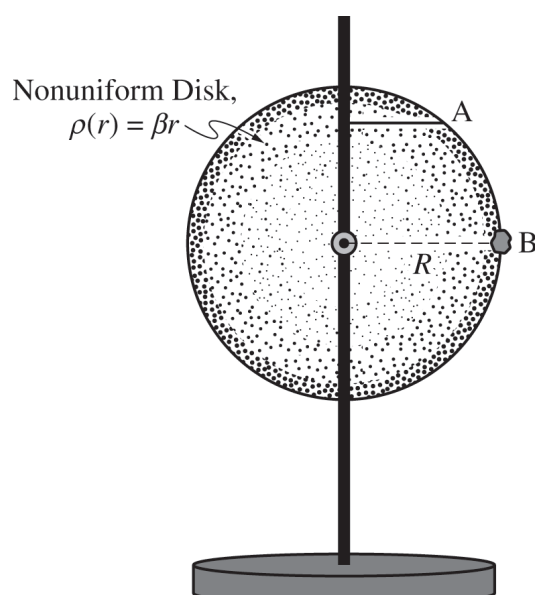

Figure 3
- (d) A nonuniform disk is now attached to the axle. The lump of clay is attached to the disk at Point B, as shown in Figure 3. The clay has mass $m_c = 0.60 \text{ kg}$ and the disk has a radius $R = 0.30 \text{ m}$. The mass density of the disk varies radially and can be modeled by $\rho(r) = \beta r$, where r is the radial distance from the axle and $\beta = 4.0 \text{ kg/m}^3$.